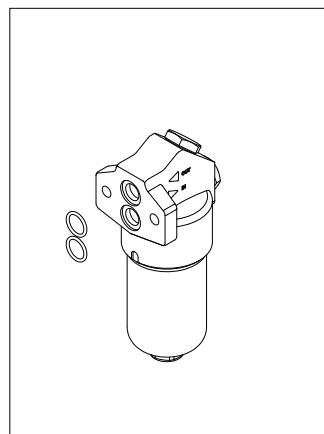

fig. 24
- (Fig. 24) Replace the O-rings of the manifold